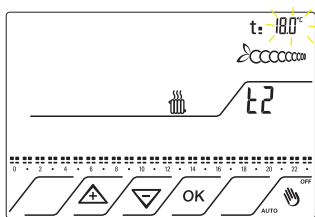

Fig.29
7.7 The display shows the second level value: T2. The relative set temperature 18°C flashes. Fig.29